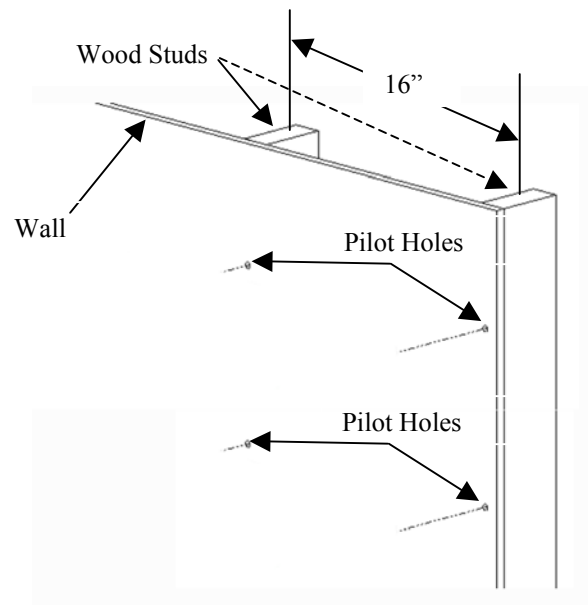

Figure 3. Wood Studs 16" Apart on Center
- Refer to Figure 3 for wood studs that are 16" apart on center.